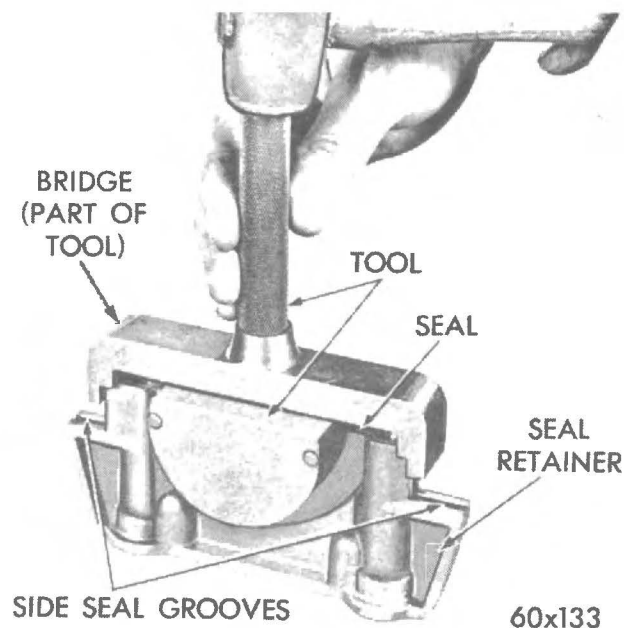
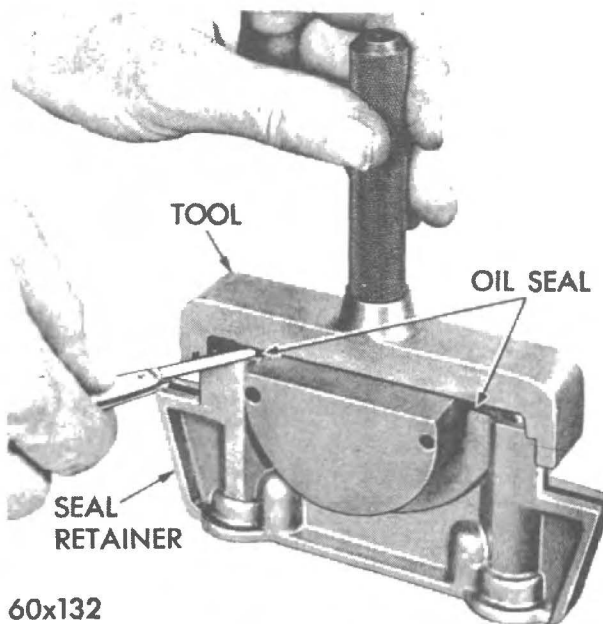

Fig. 42 - Installing rear main bearing oil seal (Tool CA-3743).
Fig. 43 - Trimming rear main bearing oil seal
(1) Install a new seal in the seal retainer so that the ends protrude (Fig. 42)..
(2) Install bridge on tool and tap the seal down into the position until tool is seated.
(3) Trim off the portion of the seal that protrudes above the cap (Fig. 43).
(4) Install the two side seals in grooves in seal retainer.
(5) When installing seal retainer tighten screws to 30 lb./ft.